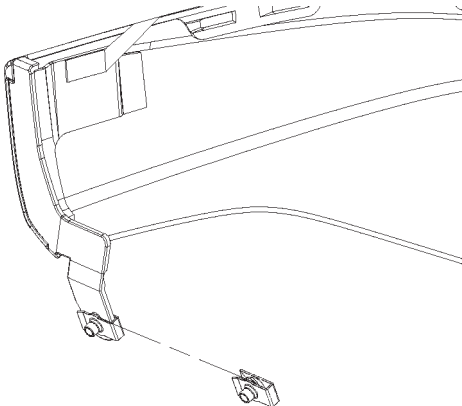

FIGURE 31
5. Insert U nut onto hinge in wheel well of front cladding – 1 per side. Refer to figure 31.